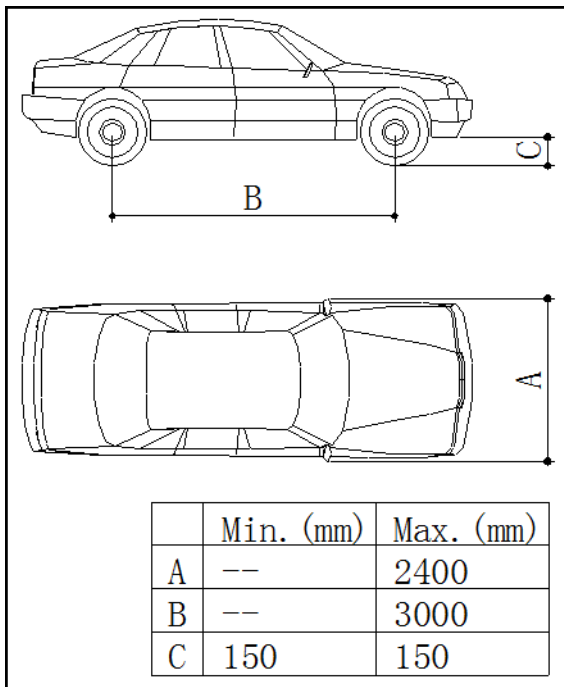
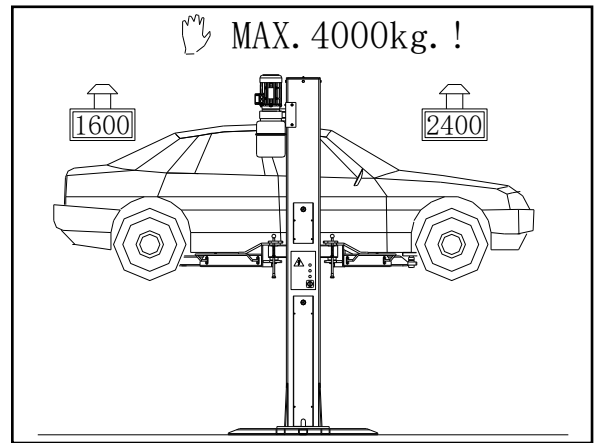

Fig. 6
Fig. 7 Weight Distribution
- ◆ Only authorized vehicle (Fig. 6 & Fig. 7) are raised without exceeding the rate capacity and overall dimensions.